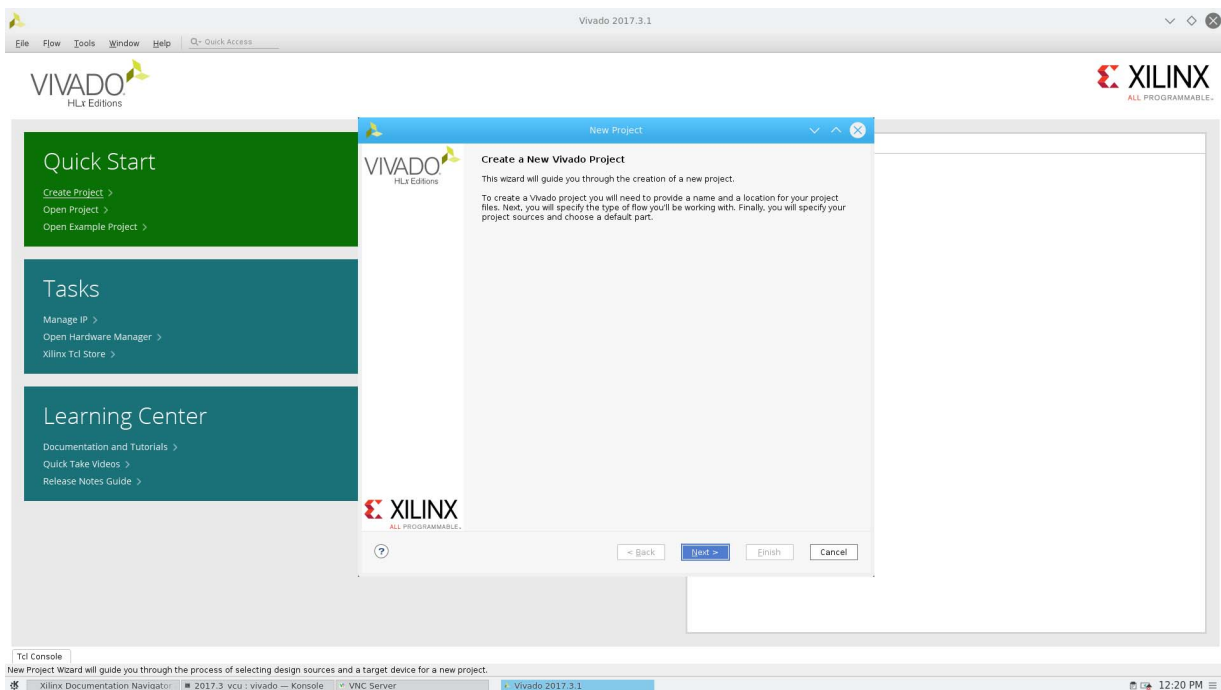

Figure 11-4: New Vivado Project
1. Launch the Vivado IDE and create a new project. (Figure 11-4)